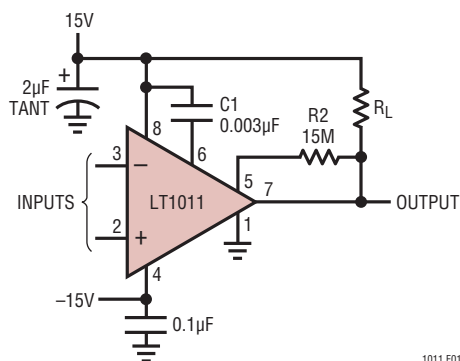

Figure 1. Comparator with Hysteresis
BALANCE (Pin 6): Balance Input. This input can be used to adjust the input voltage offset. See Offset Balancing circuit in the Typical Applications. This input can also be used to add DC hysteresis by connecting a resistor from this pin to the output. See Figure 1 for an example. If offset balancing or hysteresis is not used, the BALANCE pin should be connected to a $0.1\mu\text{F}$ capacitor to ground.
5. Use hysteresis. This consists of shifting the input offset voltage of the comparator when the output changes state. Hysteresis forces the comparator to move quickly through its linear region, eliminating oscillations by "overdriving" the comparator under all input conditions. Hysteresis may be either AC or DC. AC techniques do not shift the apparent offset voltage of the comparator, but require a *minimum* input signal slew rate to be effective. DC hysteresis works for all input slew rates, but creates a shift in offset voltage dependent on the previous condition of the input signal. The circuit shown in Figure 1 is an excellent compromise between AC and DC hysteresis.